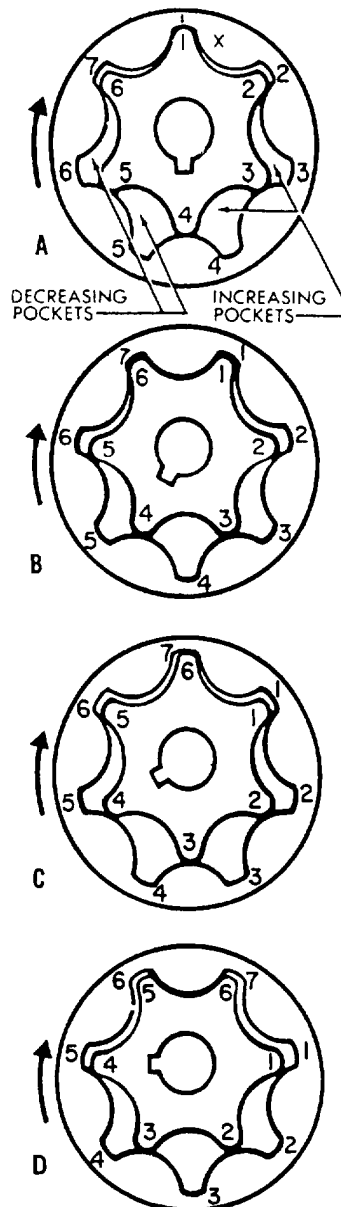

Figure 10-6.-Principles of operation of the internal gear type of pump.
For an explanation of the operation of this type of pump, refer to figure 10-6. The teeth of the inner gear and the spaces between the teeth of the outer gear are numbered. Note that the inner gear has one less tooth than the outer gear has spaces. The tooth force of each gear is related to that of the other in such away that each tooth of the inner gear is always in sliding contact with the surface of the outer gear. Each tooth of the inner gear meshes with the outer gear at just one point during each revolution. In the illustration, this point is at the top (X). In view A, tooth 1 of the inner gear is in mesh with